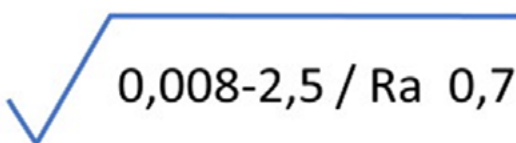

Figure 2. Specified parameter with a defined bandwidth.
Figure 2. Three-dimensional wear trace reconstruction process performed by Mountains® software to calculate the area of the wear trace after pin-on-disk tests. (A) Raw Pseudo-colour image, (B) image after filtering (Filter Median Denoising 3x3) and form removal (Form removed: polynomial of order 4).
When values other than the defaults are required, they must be written explicitly. For example, in figure 2. below, the bandwidth is defined with a cut-off of 0.008mm (8 μ m) for λ_s and a cut-off of 2.5 mm for λ_c .